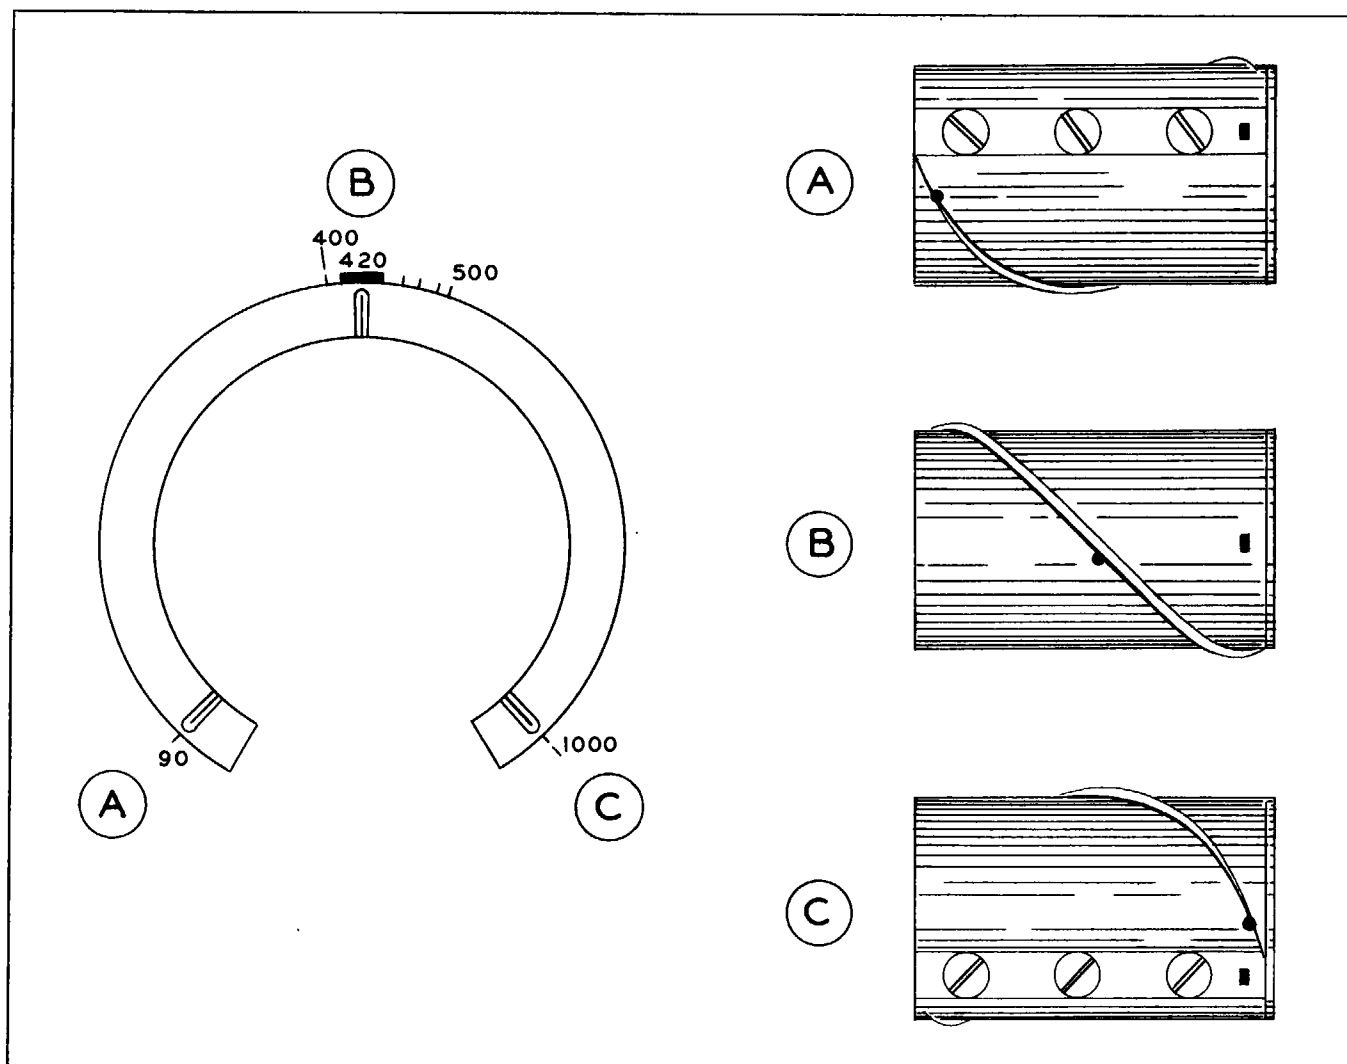

Figure 4-4. Lawnmower Positions with Respect to Dial
(1) This is a light gray paper, the back of which is coated with a conducting material.
(2) Upon passage of current supplied through an electrode a dark trace is produced.
(3) A voltage of 120 to 130 volts is necessary to start the chemical action which causes the dark trace.
b. As it rotates, the point of contact between the helical blade and the recording paper moves across the paper as illustrated for three positions in figure 4-4.
(1) Since the recording head runs at the same speed as the dial and in synchronism with it, each position of the head has a corresponding dial position or frequency. (See fig. 4-4.)
(2) The helix must present its center to the tape when the dial is at the crossover mark at 420-megacycles.